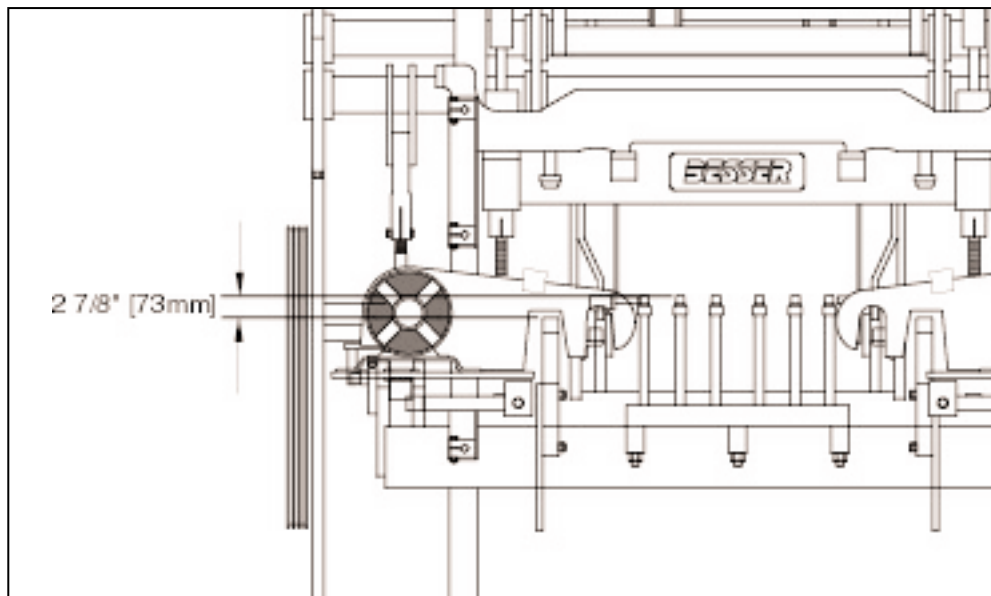

Figure 4.12 PALLET RECEIVER RUBBERS POSITION.
- 4.1.5 Adjust the pallet receiver frame so that the pallet receiver rubbers are **2 7/8" [73mm]** above the mold throat (see figure 4.12).